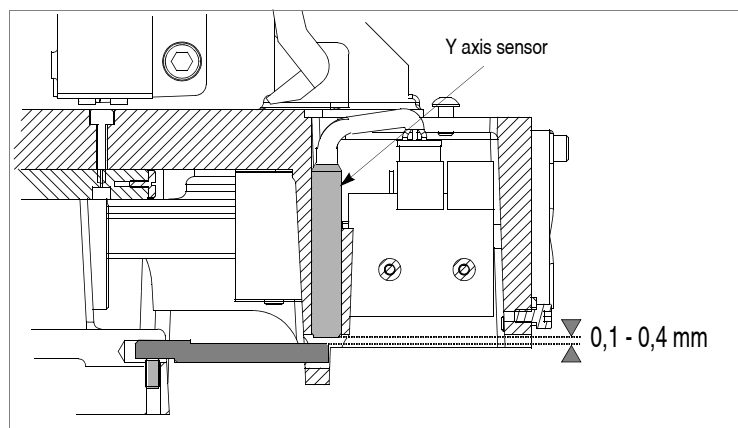

Fig. 61
- 7) remove the faulty sensor and replace it with a new one. Screw it in until it almost touches the underlying rod (fig. 61). Tighten the (M2) grub screw to lock the sensor into place.